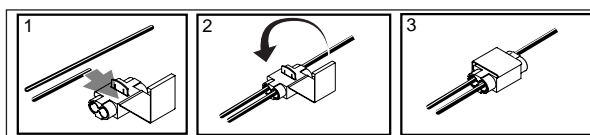

Fig.1
4. The other wires of the harness must be fitted, by using the supplied pinch-connectors, to the vehicle-wires as shown in Fig.1 and the schedule below: